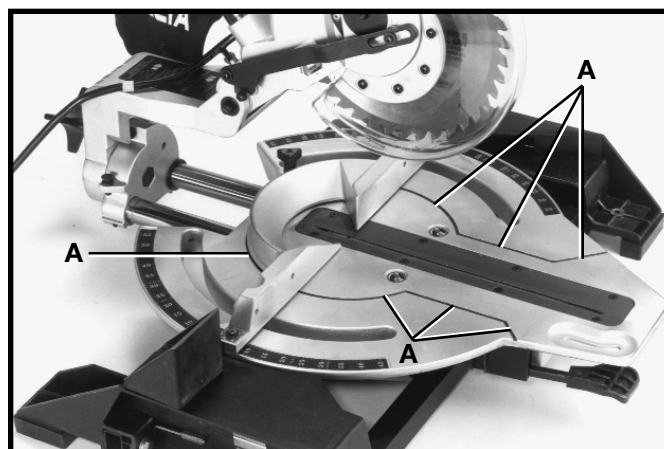

Fig. 37
**⚠ WARNING: THE AREA INSIDE THE RED LINE (A) FIG. 37, ON THE TABLE IS DESIGNATED AS A HAZARD ZONE. NEVER PLACE YOUR HANDS INSIDE THIS AREA WHILE THE TOOL IS BEING OPERATED.**